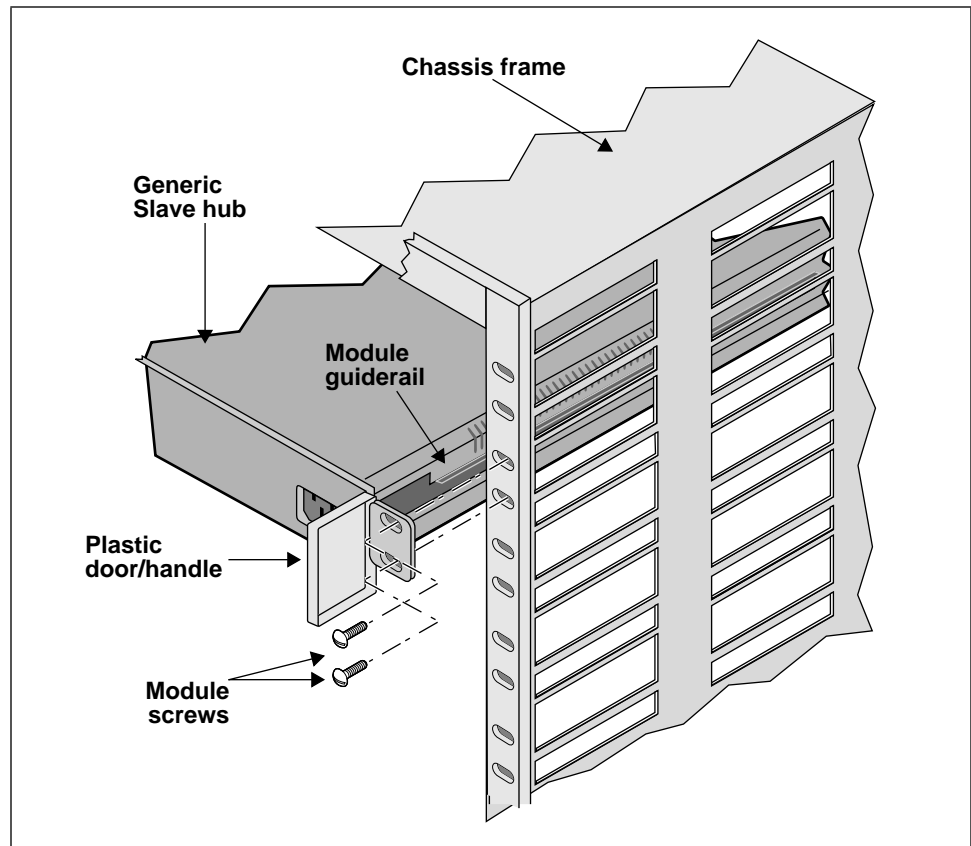

Figure 10: Installing a Module in a Chassis
4. Flip open (toward you) the two plastic doors on either side of the repeater front panel, as shown in Figure 10.
5. Align the guide rails on either side of the module with the grooves in the chassis slot, also shown in Figure 10. Then, slide the module into the chassis without seating it in the backplane connector.
9. Secure the module in the chassis slot by snapping open the plastic doors on either side of the module faceplate and screwing the module in place, as shown in Figure 10 above. Then, snap closed the plastic doors on the faceplate of the module.